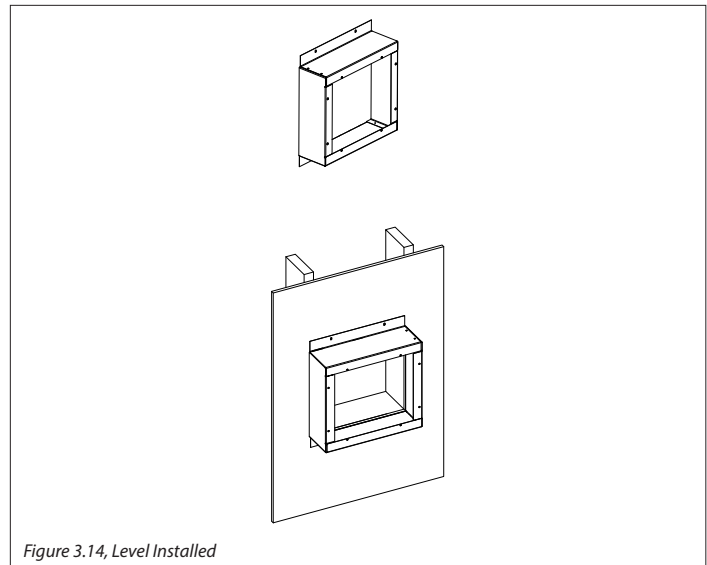

Figure 3.14, Level Installed
2. Drive two of the supplied wood screws through opposite ends of the two outer flanges. This will secure #KPV-FEK extension box to the building and allow for squaring of the #KPV-FEK. See Figure 3.14. Seal all corners, joints, and bend lines with silicone caulk. Ensure all gaps and holes are filled so a sealed envelope is formed.